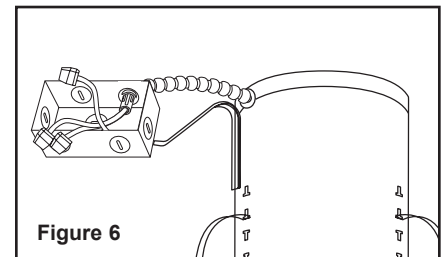

Figure 6
Step 2. Remove wiring box cover. Remove the appropriate knock-out to connect flexible metal conduit or non-metallic cable to wiring box with proper connectors (by others) (Fig. 6).